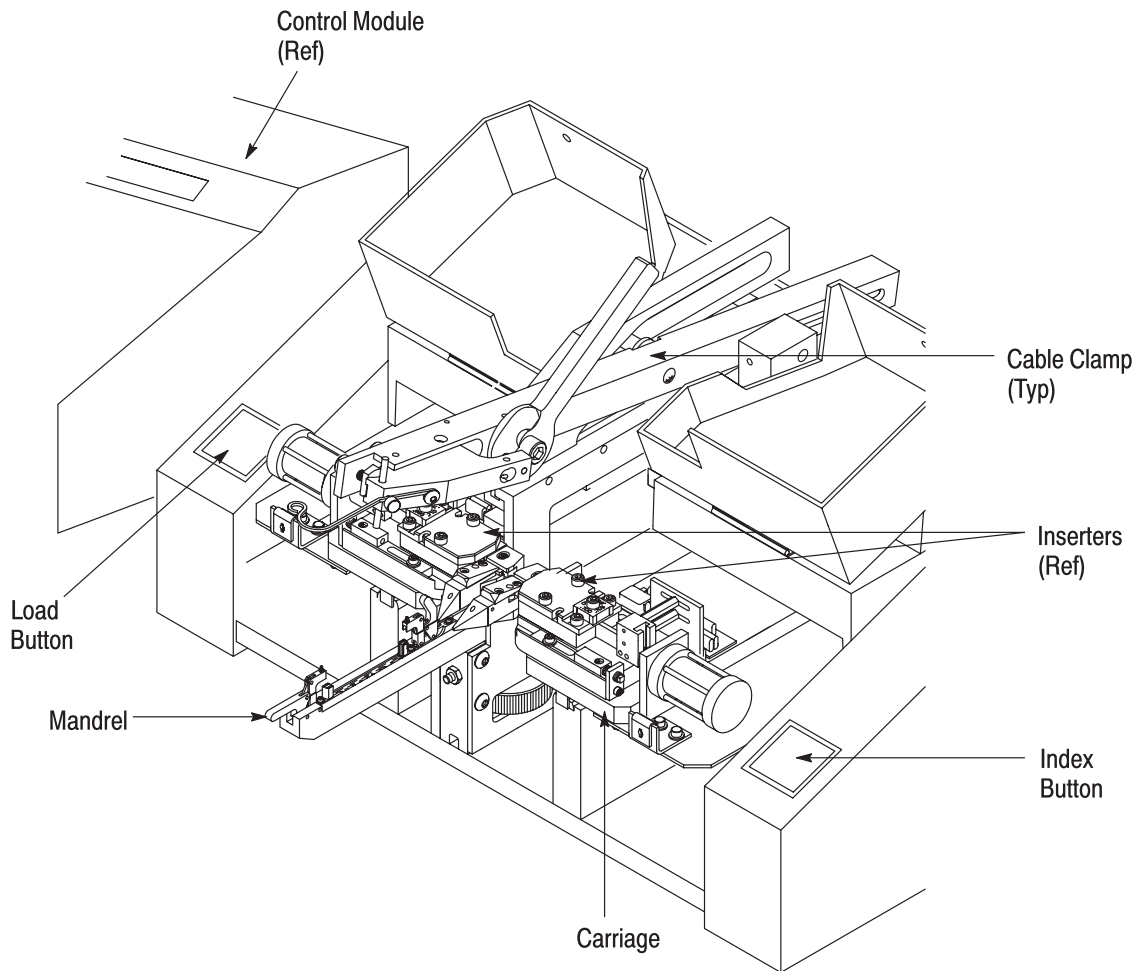

Figure 3
2.1. Physical Description (Figure 3)